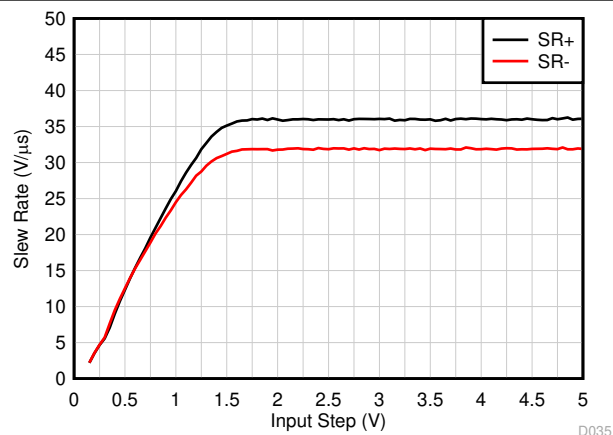

图 5-11. Slew Rate vs Input Step Voltage
- (3) See 图 5-11 for more information.